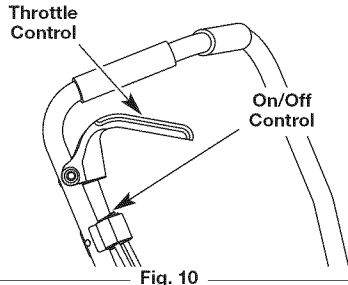

Fig. 10
**NOTE:** There is no need to turn the unit on. The On/Off Control is in the **ON (I)** position at all times (Fig. 10).
2. Press and hold the On/Off Control in the **OFF (O)** position until the unit comes to a complete stop. (Fig. 10)